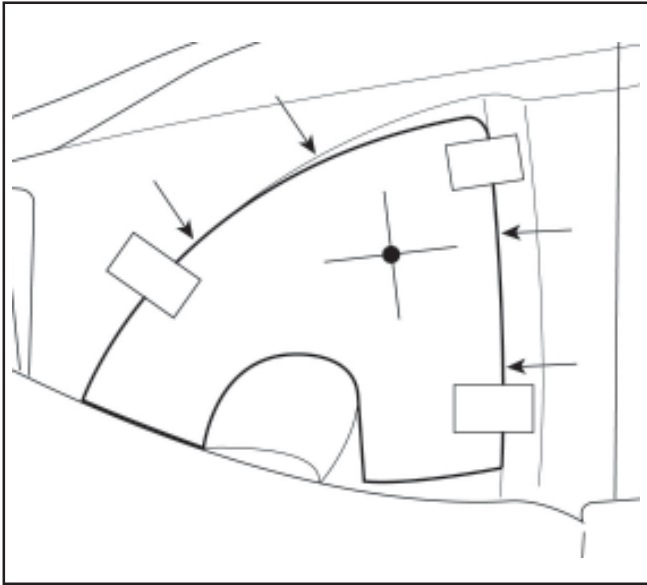

Fig. 2
3. On driver's side, position drilling template, align the edges and tape in place. (Fig. 2)